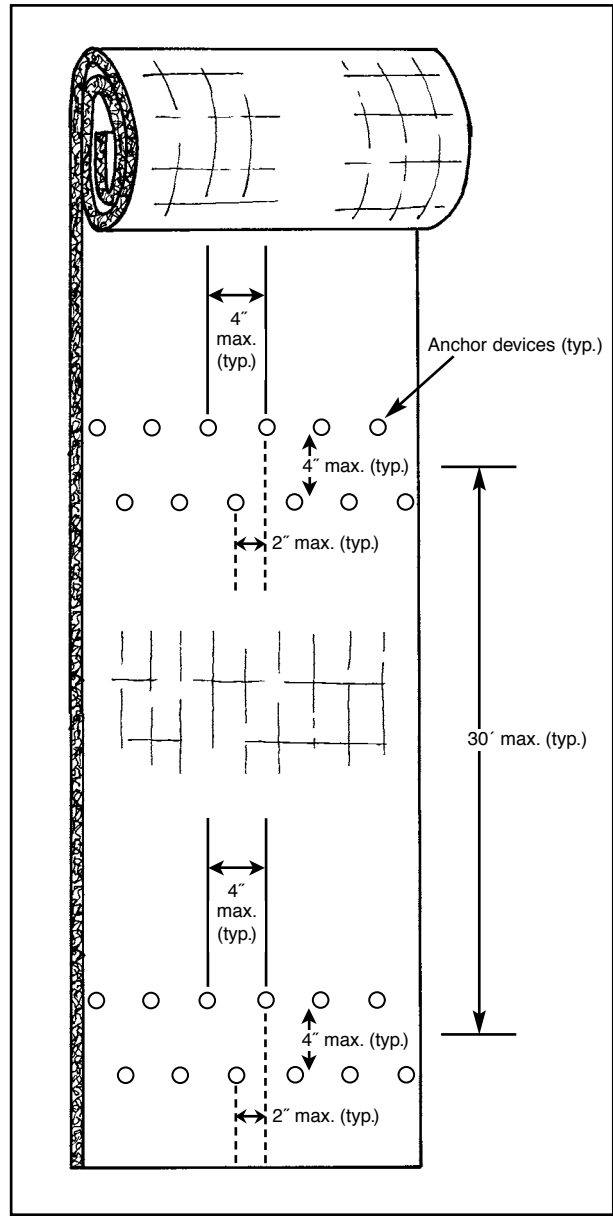

FIGURE 10 Simulated check slot
- ▶ An alternate method to the intermittent check slot is the simulated check slot. This method includes placing two staggered rows of anchors on 4 in (100 mm) centers at 30 ft (9.1 m) intervals (see Figure 10).